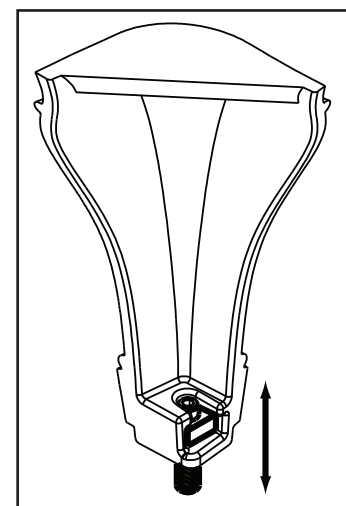

Figure 20.4
10. Use allen wrench to adjust legs up and down to desired level (**Figure 20.4**).